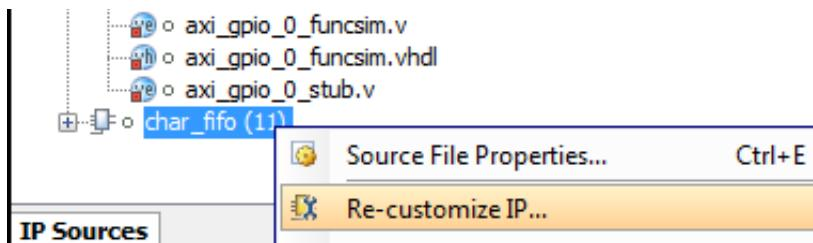

Figure 2-13: Re-customize IP Option
- In the **IP Sources** view, right-click the IP, and select **Re-customize IP** from the menu as shown in Figure 2-13.